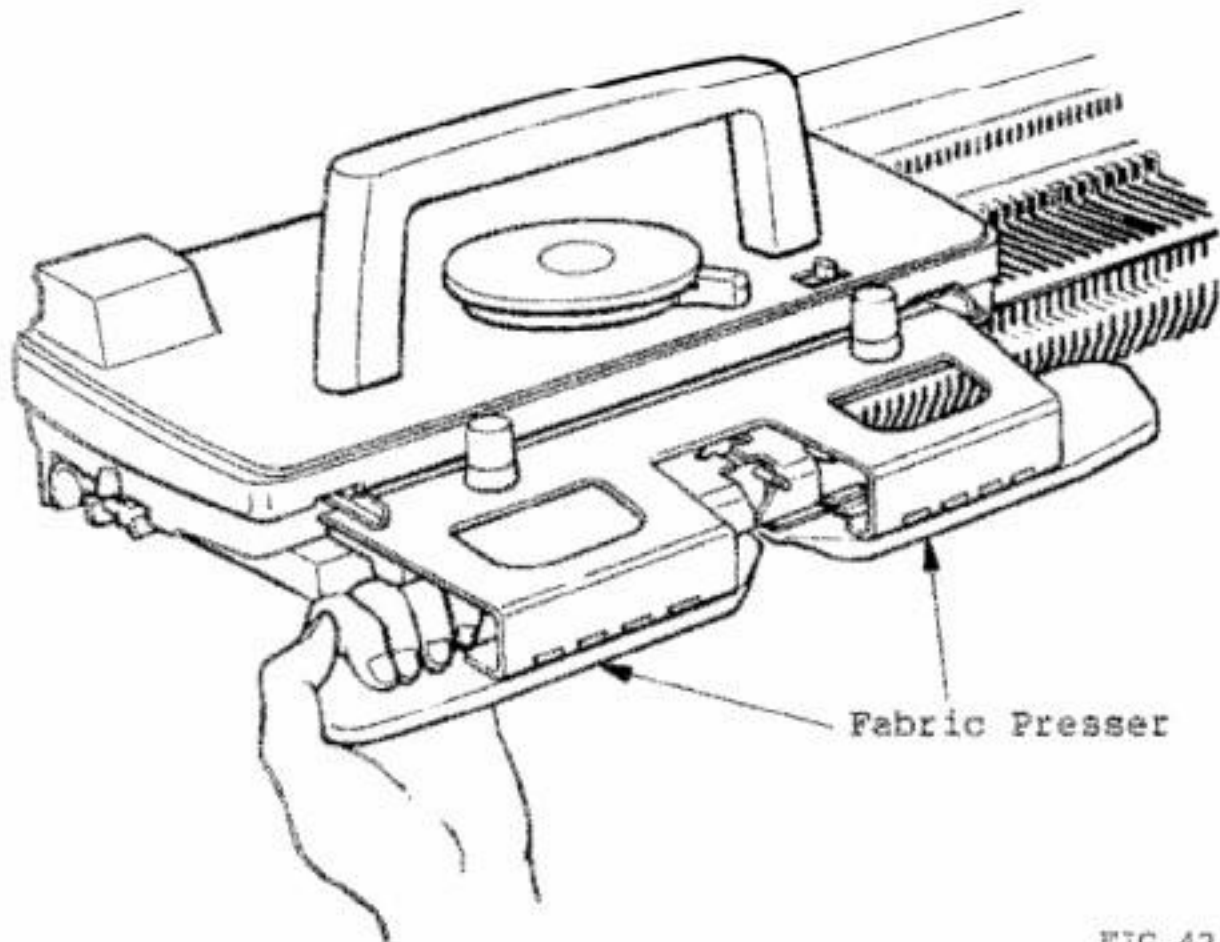

FIG.42
4. If the Fabric Presser is in excessive contact with the needles, position the Carriage to either end so that the presser to be adjusted is off edge of the Needle Bed, then pull down the presser by hand as shown in Figure 42 to reduce the presser angle.